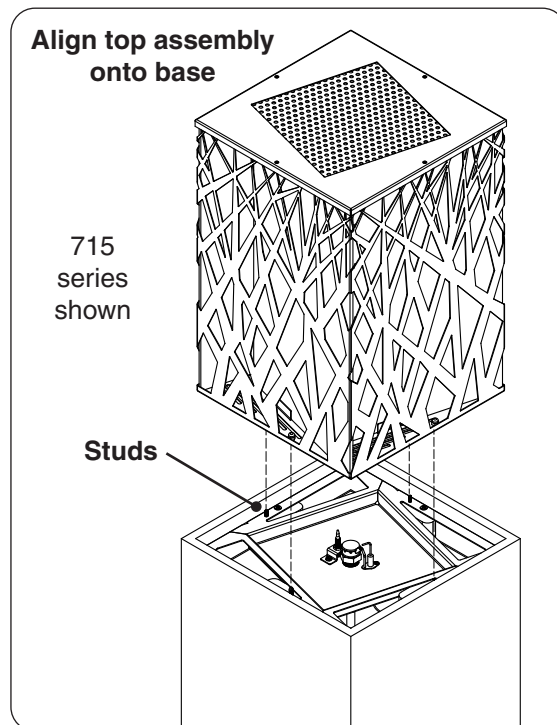

Fig. 22-1 Place top assembly
1. The top assembly is pre-assembled at the factory. **CAREFULLY** place the top assembly onto the lantern base. See Fig. 22-1.